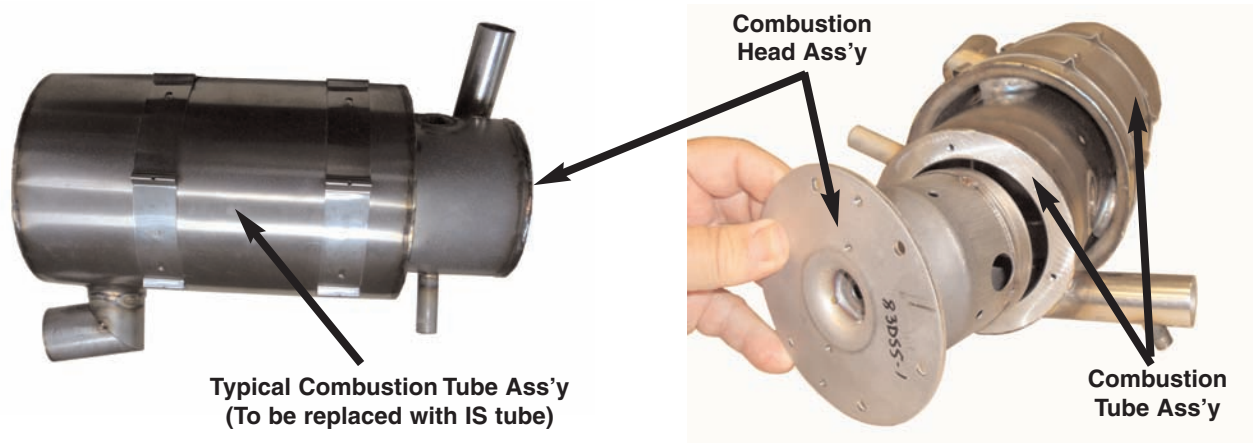

Figure 3 - Combustion Tube & Combustion Head Ass'y
- (4) Once the combustion tube assembly has been removed, It will be necessary to remove the combustion head assembly for modification. Remove the hardware and pull out the combustion head assembly. (Refer to Fig. 3.)